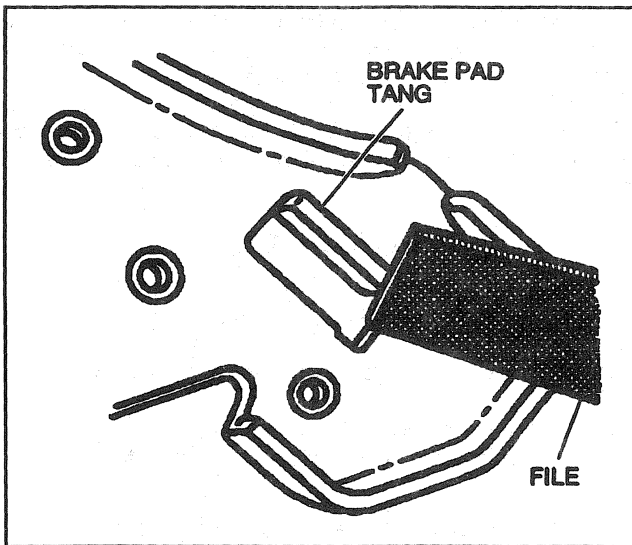

Figure 12—Filing Outer Brake Pad Tang
5. File the leading edge of the brake pad tang to aid in installing brake pad to caliper (Figure 12).